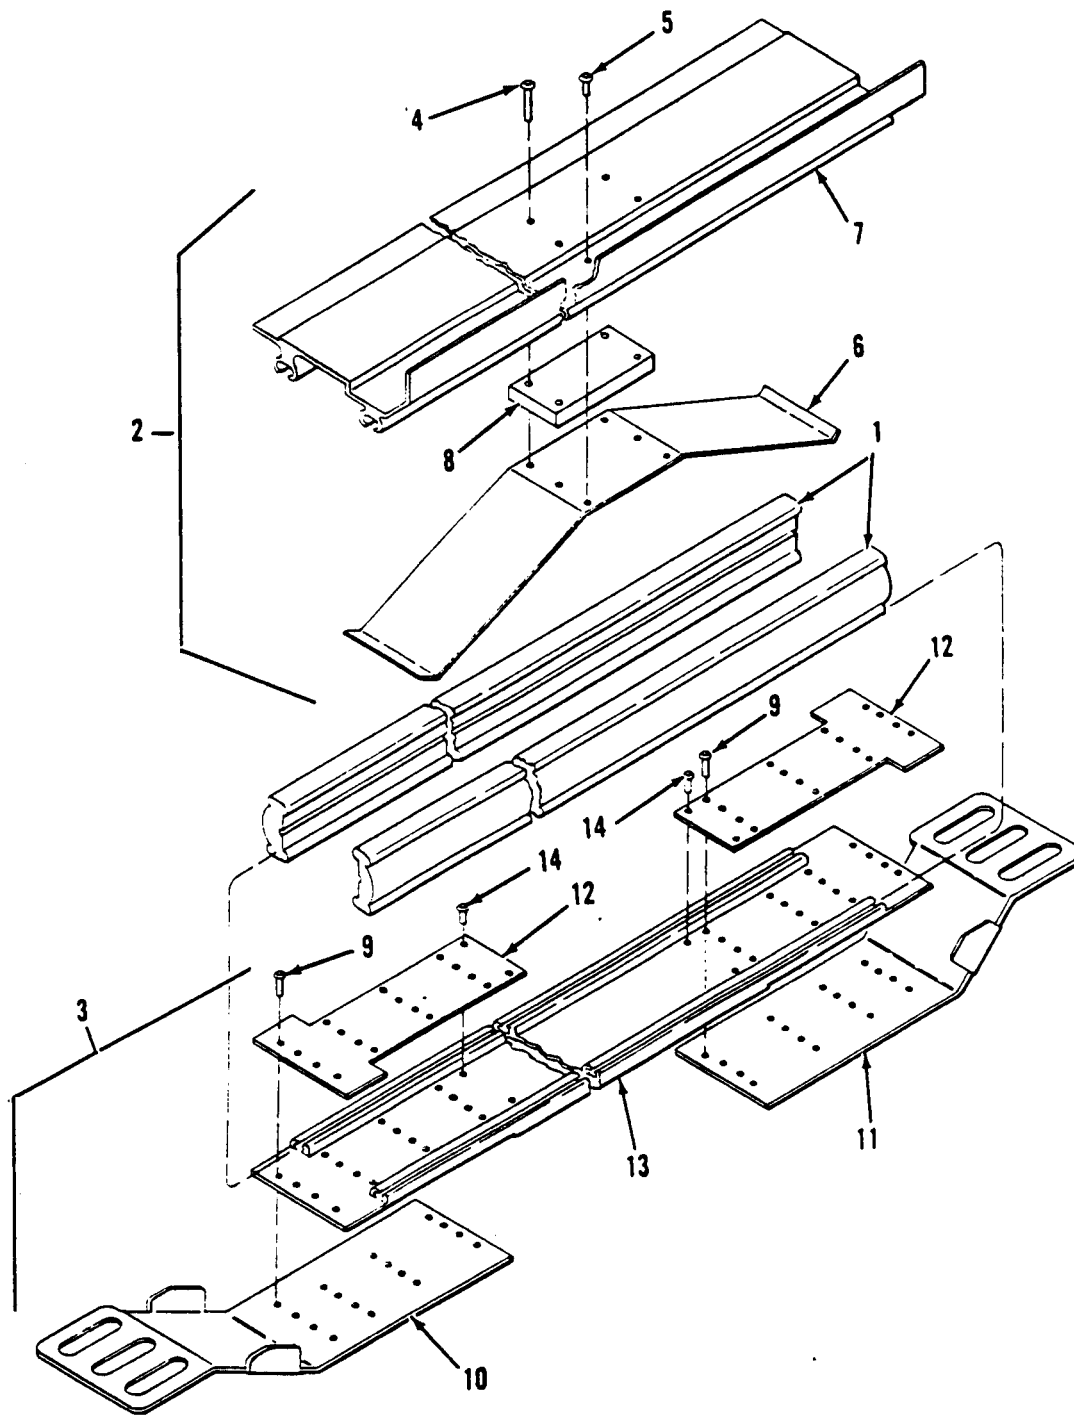

Figure 3-36. Skid Assembly Repair.
- (1) Inspect for secure mounting and dents.
- (2) Inspect for damage to skirts (1, Figure 3-36).
c. *Disassemble.* (Figure 3-36)
- (1) Pull skirt (1) out of mounting grooves of upper plate assembly (2) and nose plate assembly (3).
- (2) Drill out four rivets (4) and two rivets (5) attaching spring (6) to skid plate (7), and remove spring (6) and spacer (8).
- (3) Drill out 16 rivets (9) attaching each noseplate (10 and 11) to plate (12) and shoe (13).
- (4) Drill out two rivets (14) attaching each plate (12) to shoe (13) and remove plates (12) from shoe (13).
e. *Assemble.* (Figure 3-36)
- (1) Position each plate (12) in place on shoe (13) and secure with two rivets (14). (Refer to paragraph 3-9.a for rivet installation instructions.)